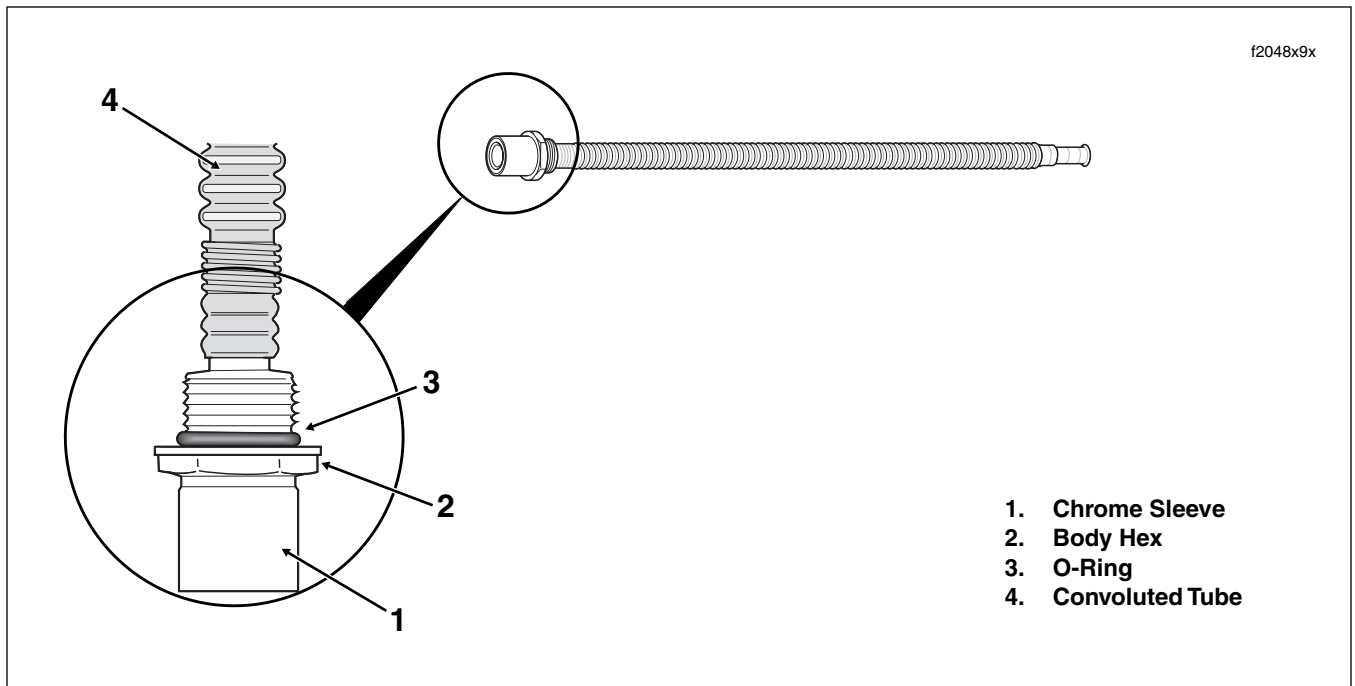

Figure 9-22. Fuel Supply Check Valve/Tube (Quick-Connect Fitting)
3. Slide a 7/8 inch deepwell socket over chrome sleeve engaging hex on quick-connect fitting. See Figure 9-22. Looking down at top of fuel tank, rotate fitting in a clockwise direction until it turns easily. Remove the fitting by hand drawing convoluted tube out through hole at bottom of fuel tank.
1. Apply a very thin film of clean H-D 20W50 engine oil to **new** O-ring. Slide O-ring down convoluted tube and into groove of **new** quick-connect fitting. See Figure 9-22.